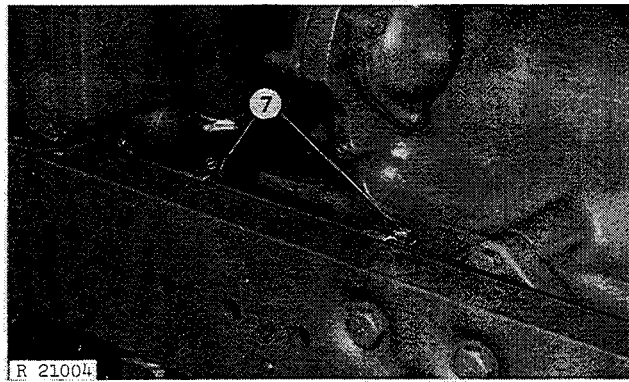

Fig. 9—Hydraulic Return Oil Pipe and Clamp
7. Disconnect hydraulic system return oil pipe and clamps (Fig. 9).